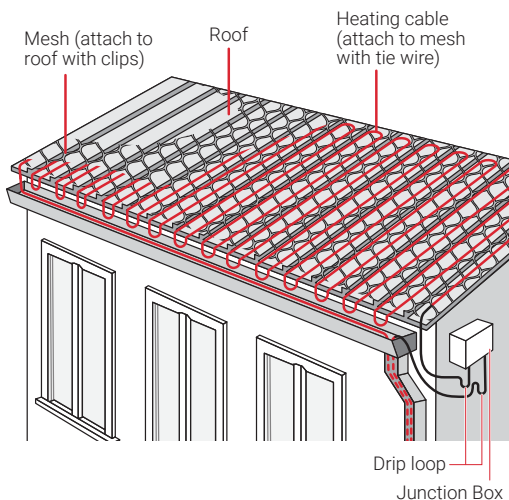

Figure 20: Typical roof snow/ice melting installation for entire roof
2. Roof snow/ice melting: Heating cables are generally attached to wire mesh elevated about 1/2 in (13 mm) above the roof surface and laid out over the area to be snow/ice melted (Figure 20). If using a mesh, attach the mesh to the roof following the requirements in the project design specifications
4. Roof snow/ice melting: Lay out the heating cable in a serpentine pattern and fasten the cable to the wire mesh at the predetermined spacing, ensuring the watt density is as directed in the project design specifications. For sloping roofs, it is recommended that the heating cable be installed up and down the roof (Figure 20) rather than across the roof to minimize damage to the cable from snow sliding off the roof. The heating cable can be fastened to the wire mesh using copper tie wire or straps. Do not over-tighten the copper tie wire/straps as the heating cable will expand when energized and must be allowed to move. If over-tightened, the cable may be damaged.